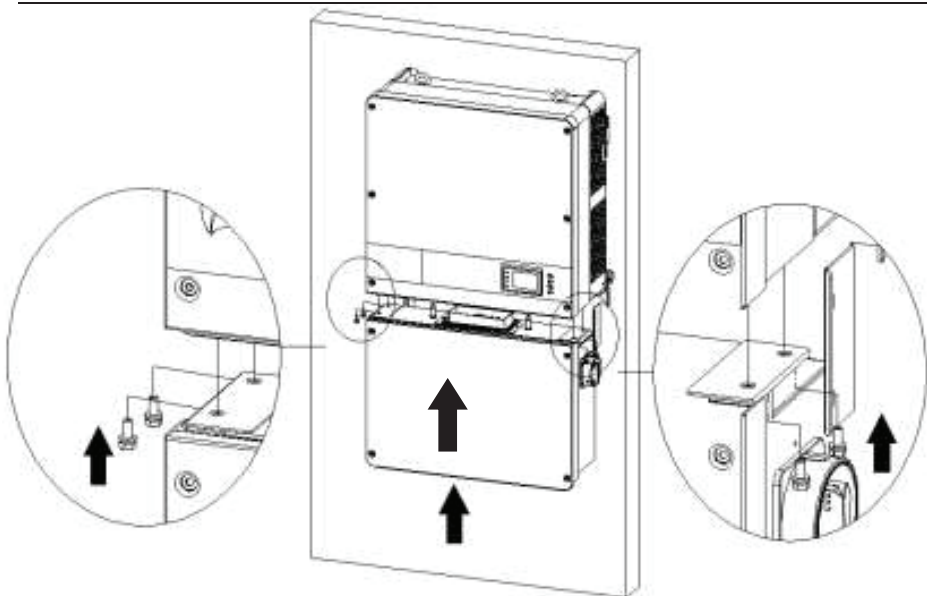

Figure 2.11 - Wiring Box Installation
- ③ Connect the wiring box to the main section, using M6x18 screws (4pcs) to secure the wiring box. (see Figure 2.11)